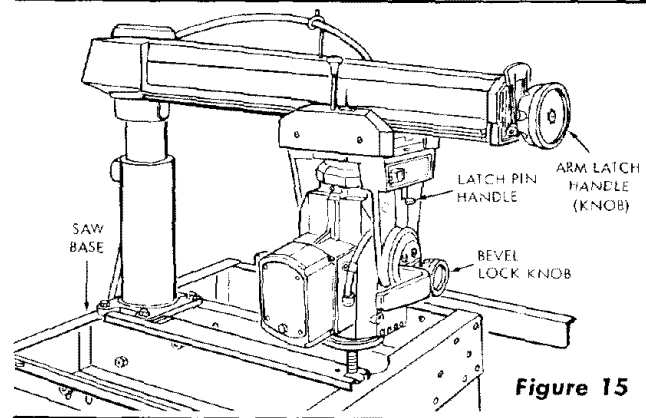

Figure 15
- b. Swivel the motor counterclockwise until the saw end of shaft is pointing straight down and the latch pin handle "snaps" into a detent. (See figure 15.) Tighten the bevel lock knob. If the motor shaft strikes some part of the saw base raise the radial arm enough to clear it by rotating the elevation crank.